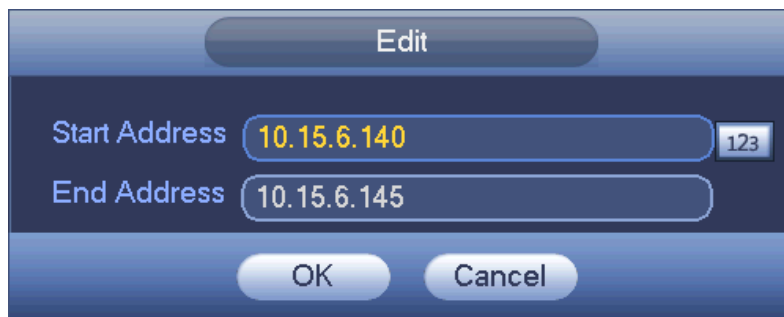

Figure 4-229
- Edit: Click it to edit start address and end address. See Figure 4-229. System can check the IP address validity after the edit operation and implement IPv6 optimization.